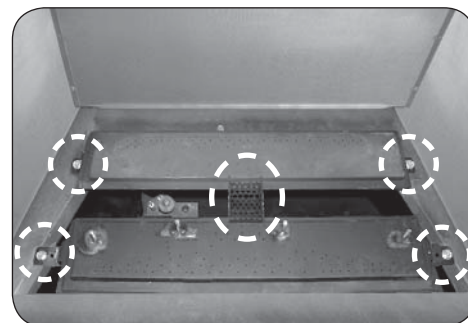

Fig. 29-3 Remove screen & hex screws
4. Remove the ember screen. Remove the $\frac{2}{4}$ hex screws found on the ends of the burner(s) using a $\frac{5}{16}$ " nut driver (see Fig. 29-3).